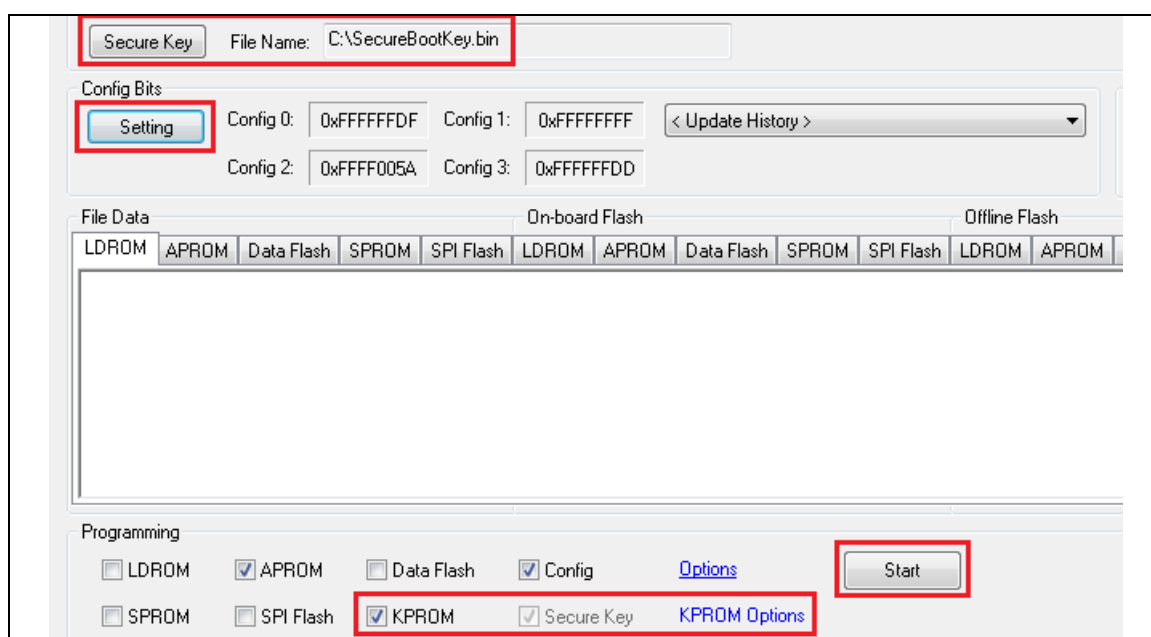

Figure 8-15 Program Secure Boot Key and Information Block
- Step5:** Select **“Secure Key”** option in programming options and click **“Start”** button to program in Figure 8-15.